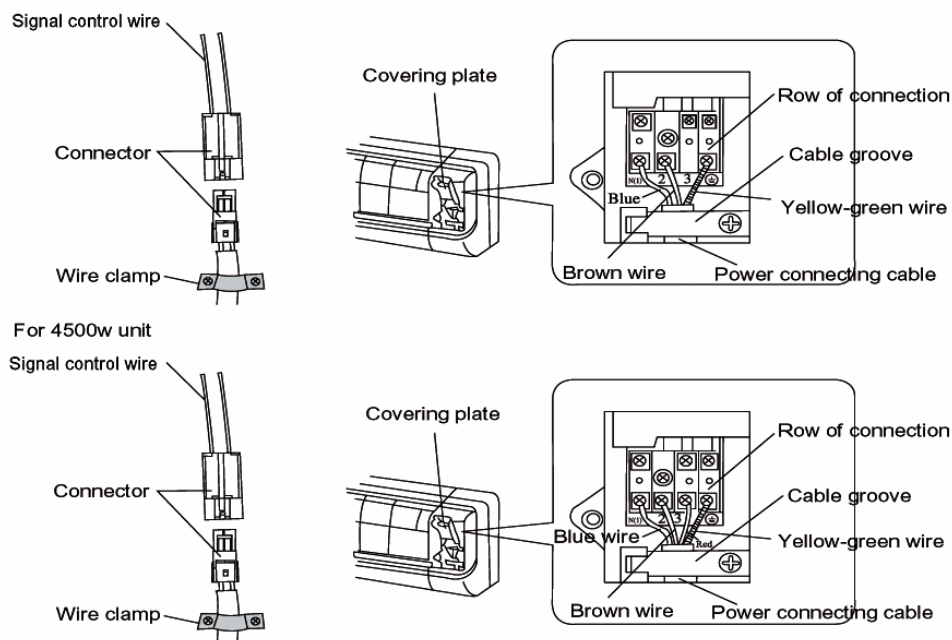

Fig.11-2
- As shown in Fig.11-2, connect the blue wire of power connect wire onto terminal "N", red wire onto terminal "2", brown onto terminal "3" and yellow-green one (earth wire) to terminal "⊕"